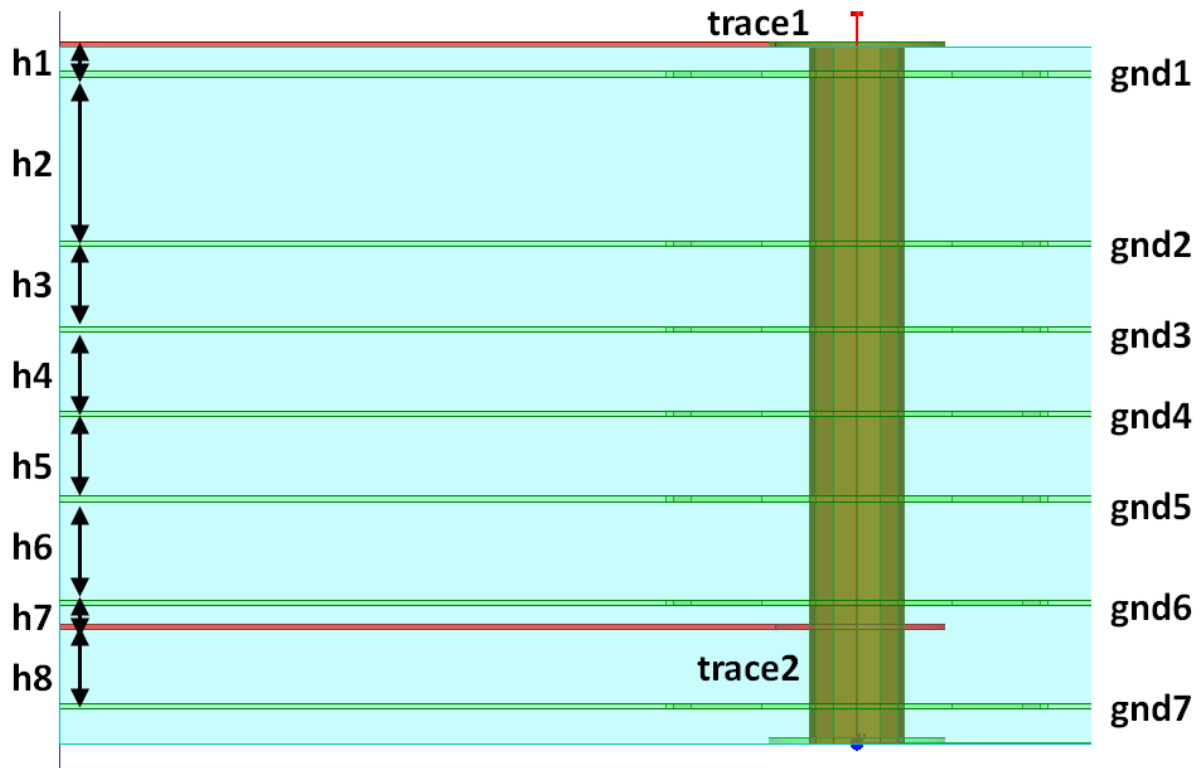

Figure 5. Locations of ground planes
2. The locations of the ground planes are illustrated in Figure 5. We use **hx** to denote the separation of two planes/traces and **hx is measured from the lower surface of one plane/trace to the upper surface of another plane/trace. e.g. h1 is measured from the lower surface of trace1 to the upper surface of gnd1**